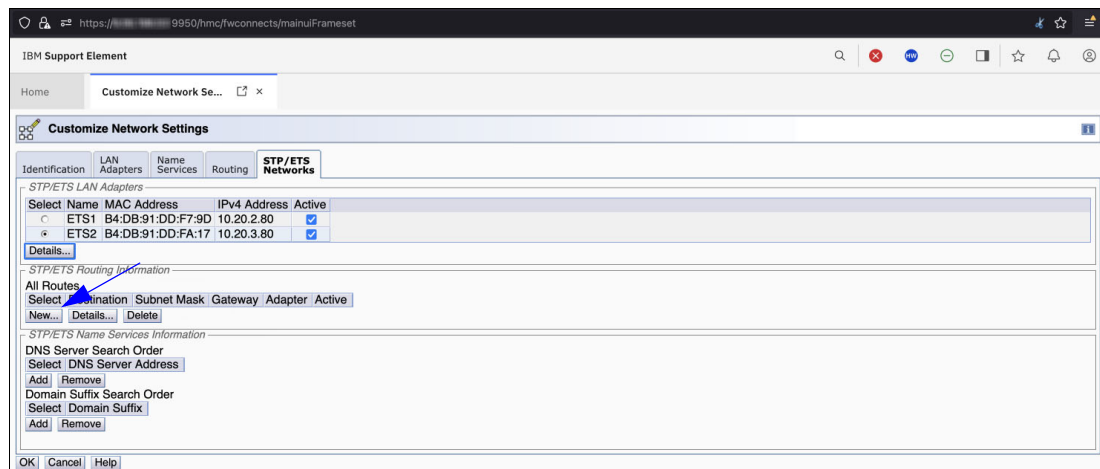

Figure 4-4 Defining IP routes
4. Click **New** to configure the routes for the newly defined interfaces as shown in Figure 4-4.